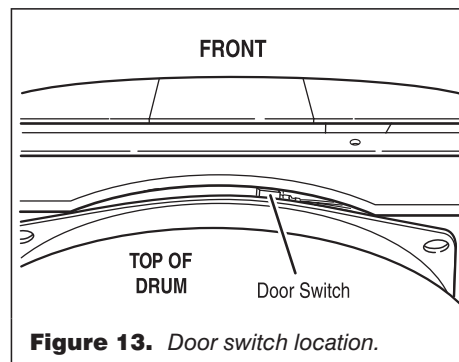

Figure 13. Door switch location.
- Check that the wires between the door switch and machine control electronics are connected. See figure 13 for switch location, and see Accessing and Removing the Electronic Assemblies, at right.